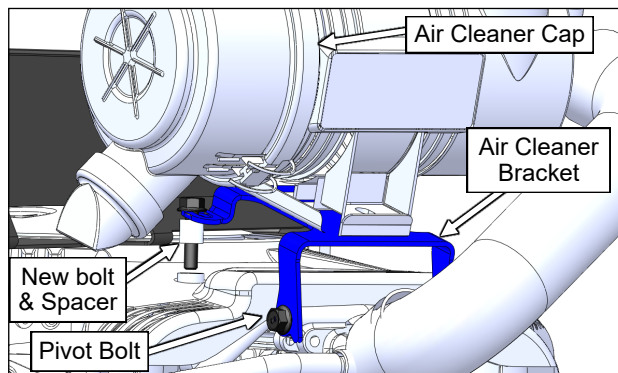

Fig. 8.1 (36HP Air Cleaner)
- 8.1 See fig. 8.1. Remove the nut and double-ended bolt from the front tab of the air cleaner bracket.